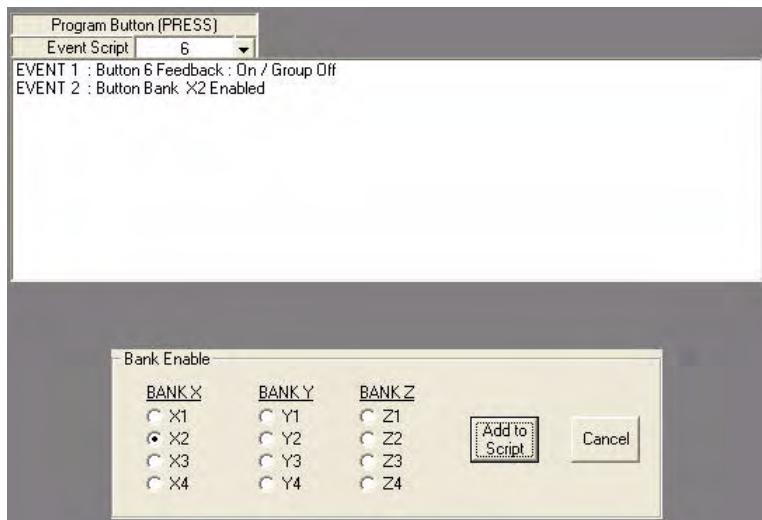

FIG. 69 Button 6 script, with Enable X2 Bank selected
5. Write a Script for Button 6 and include Enable Bank **X2** (FIG. 69).